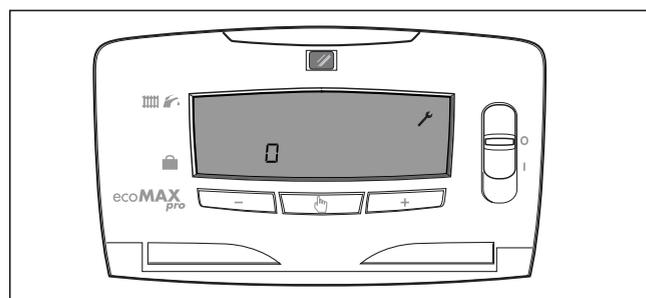

Fig. 17.1
- With the interface in 'normal' mode, press and hold the 'mode' button () for 10 seconds until a flashing '0' appears (fig. 17.1).